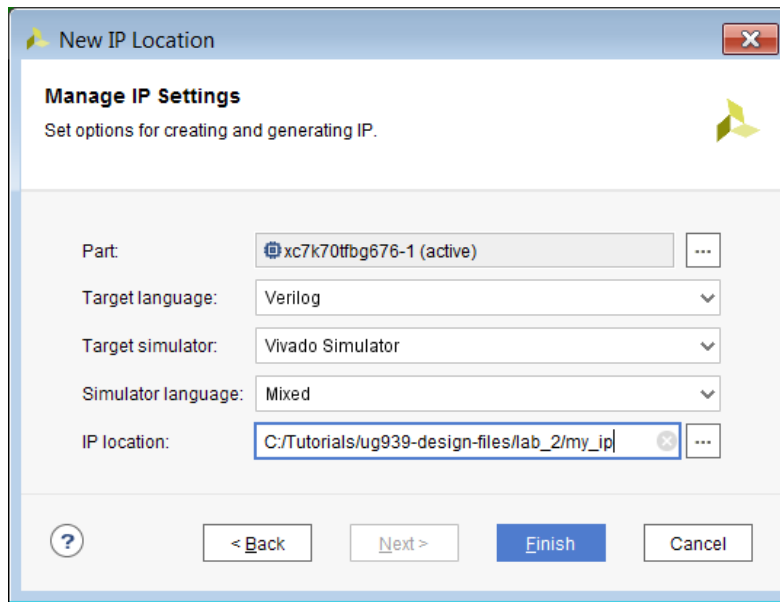

Figure 19: Manage IP Settings
5. Click **Next** to move to the Manage IP Settings dialog box shown in Figure 19 (this shows to what you change the default setting).